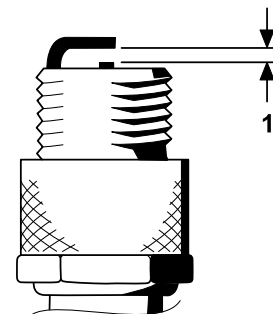

Figure 29
4. Set the air gap between the center and side of the electrodes at 0.76 mm (0.030 inches) as shown in Figure 29.